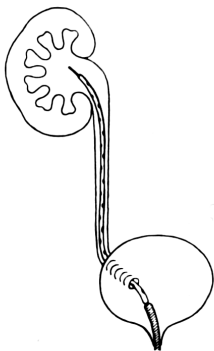

Fig. 1
2. When the flexible tip of the wire guide and the proximal end of the stent are fluoroscopically confirmed to be in the renal pelvis, stabilize the positioner, loosen the lockable fitting, and gently withdraw the wire guide to allow the retentive coil to form in the renal pelvis (**Fig. 1**).